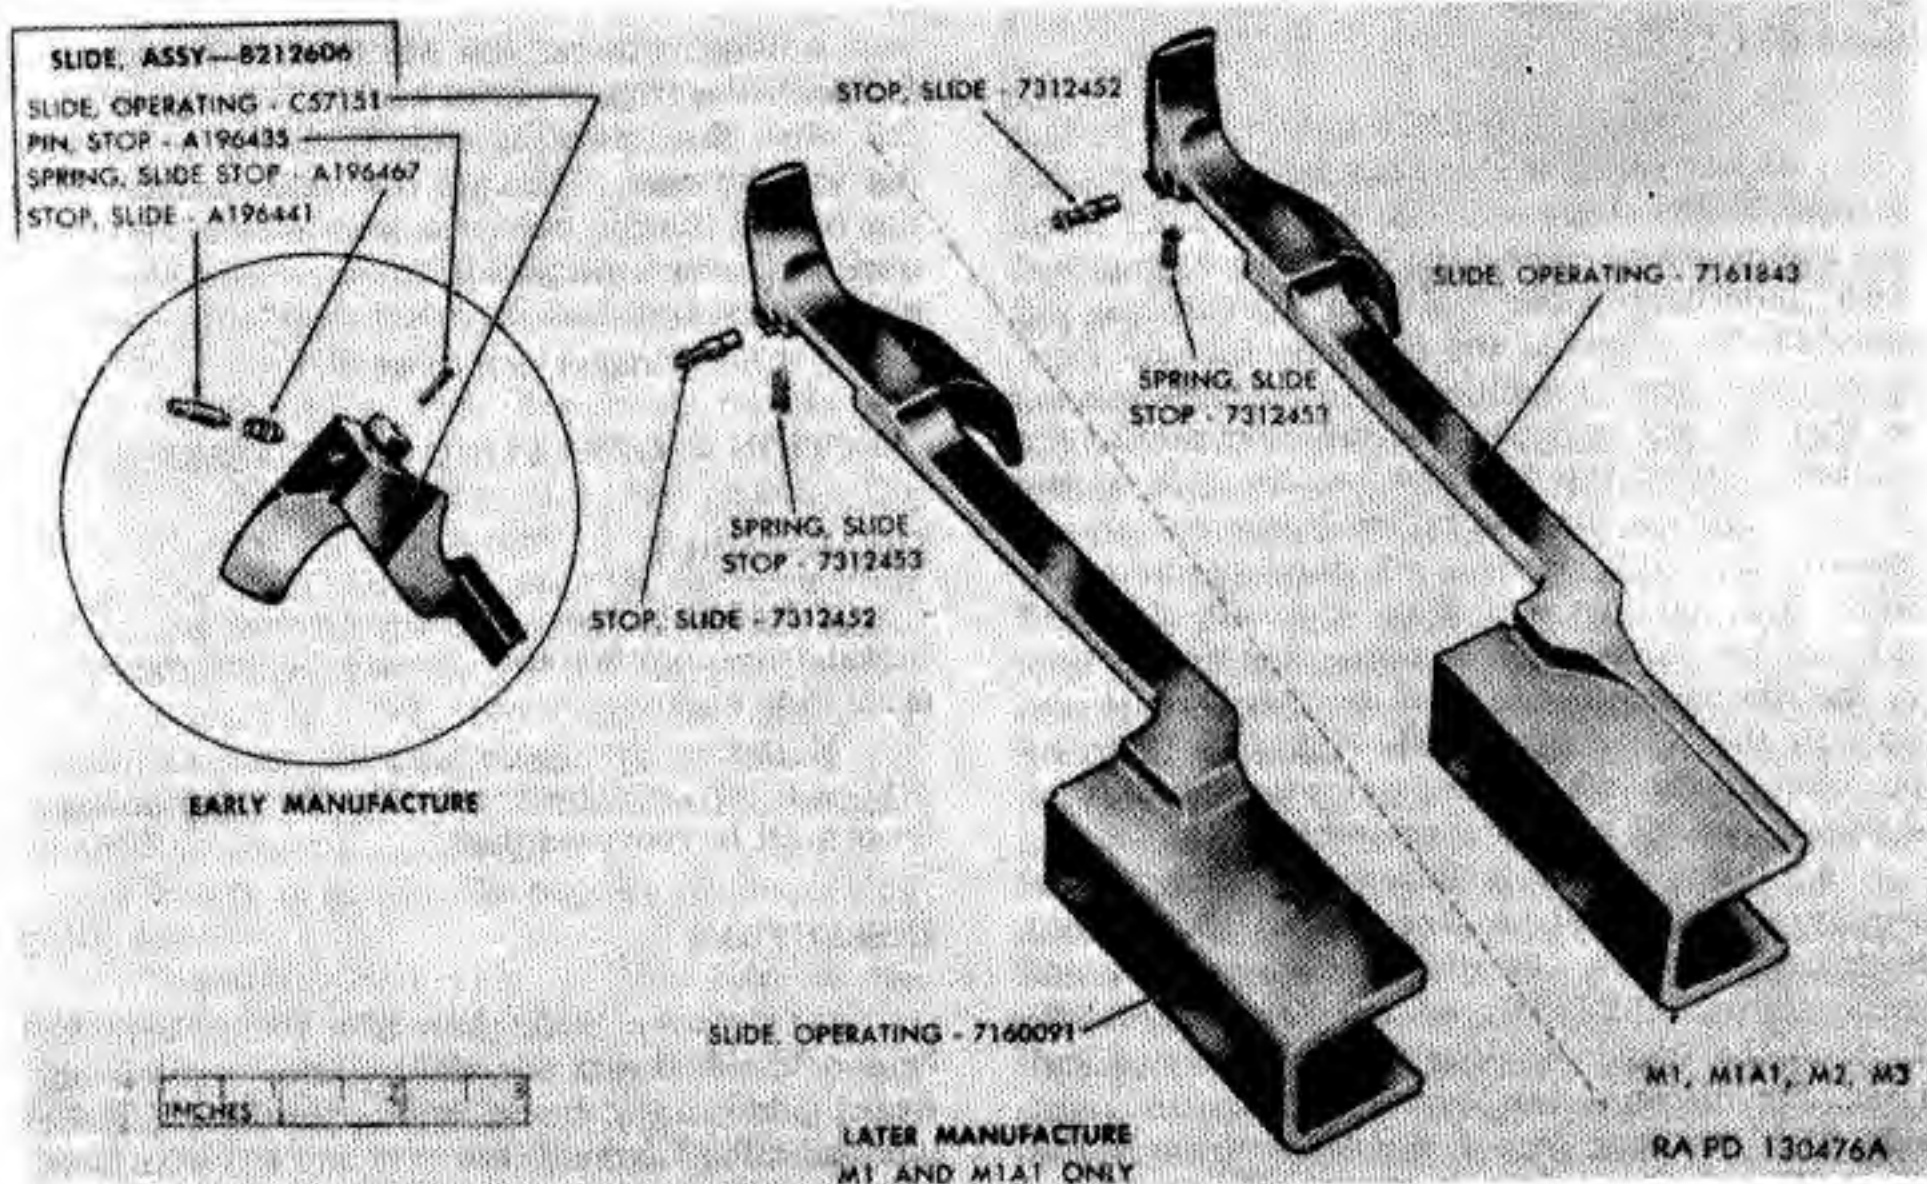

Figure 57. Operating slide assembly.
*a. Operating Slide* (Fig. 57). Check slide for bent or cracked rear bar, deformation, excessively worn guide lugs, burrs, and corrosion. Inspect bolt camming lug recess for wear and burrs. Inspect spring guide seating recess in rear face for wear, burrs, and foreign matter. Inspect front race of
*b. Operating Slide Stop and Stop Spring (Fig. 57).*
- (1) For depot maintenance, check to assure that stop 7312452 and spring 7312453 are used. For field maintenance, old type is satisfactory if it functions properly.
- (2) Inspect stop for wear and burrs, looseness in operating slide, and rust. Inspect stop spring for functioning, lack of friction with stop, and for set. Inspect spring for foreign matter.